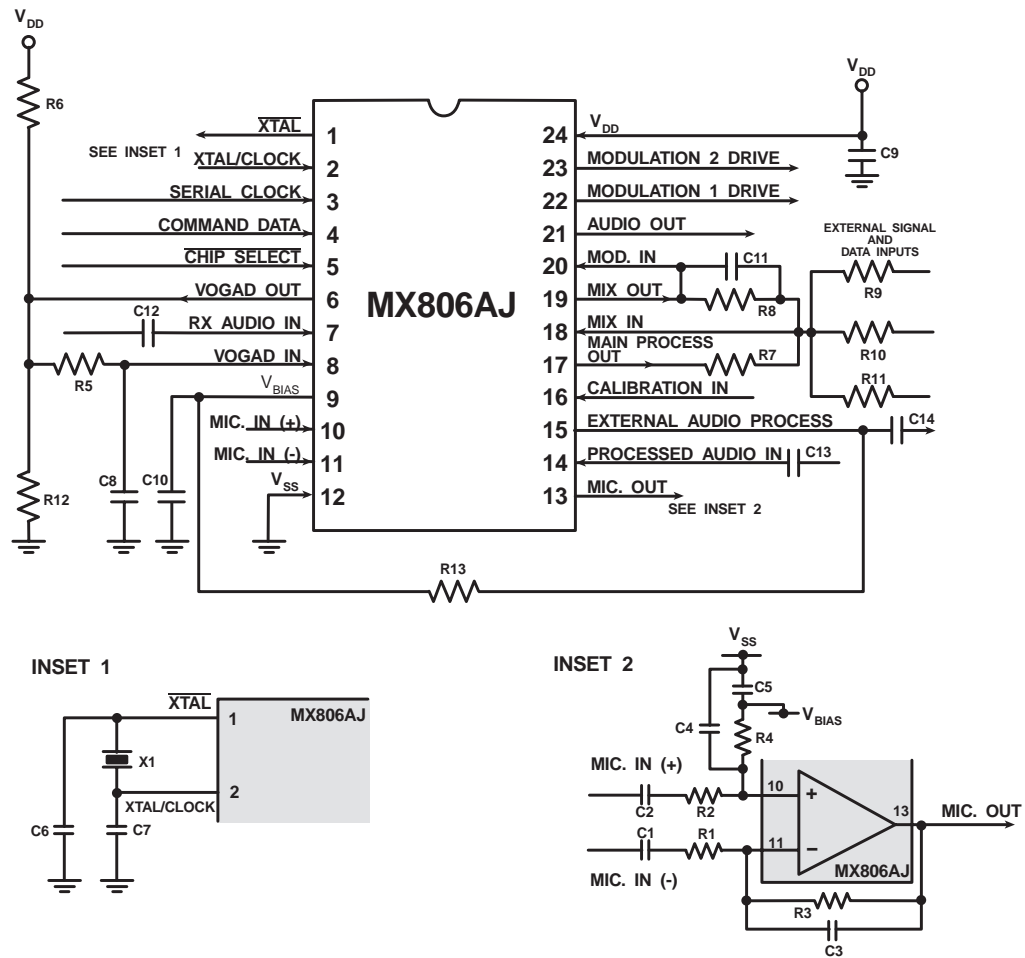
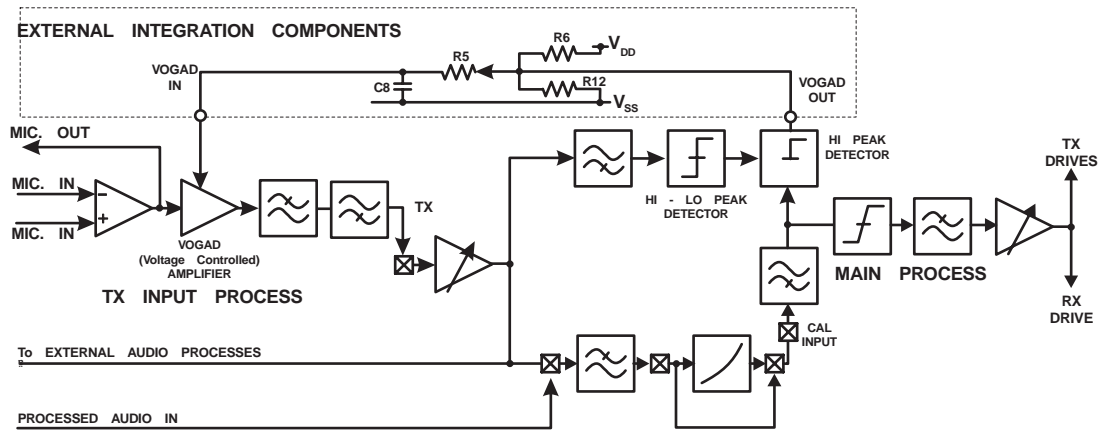

Figure 2: Recommended External Components
Figure 3: VOGAD Sensors and Timing Components (from Figure 5)
The overall Gain Control system of the MX806A consists of 2 selectable signal peak detectors whose output is fed via external integrating components to adjust the gain of the Voltage Controlled Amplifier positioned in the TX Input Process Path. The transmit input signals is presented to Peak Detector 1 or 2. The Peak Detectors are enabled individually by a Mode Command. When the input signal exceeds the peak - to - peak threshold of the detector, a 5-volt level is produced at the VOGAD Out pin. This level remains for as long as the signal exceeds the threshold. The integrated level to the VOGAD In pin causes the Voltage Controlled Amplifier gain to be reduced. As can be seen from Figure 3 and Figure 5, Peak Detector 1 allows control of the audio level to the external audio process and Peak Detector 2 allows control of transmit deviation levels.
VOGAD attack and decay times are set using the external components shown in Figure 2 and Figure 3. They are calculated as described below.
4.2.1 VOGAD Components Calculations – Figure 2 and Figure 5